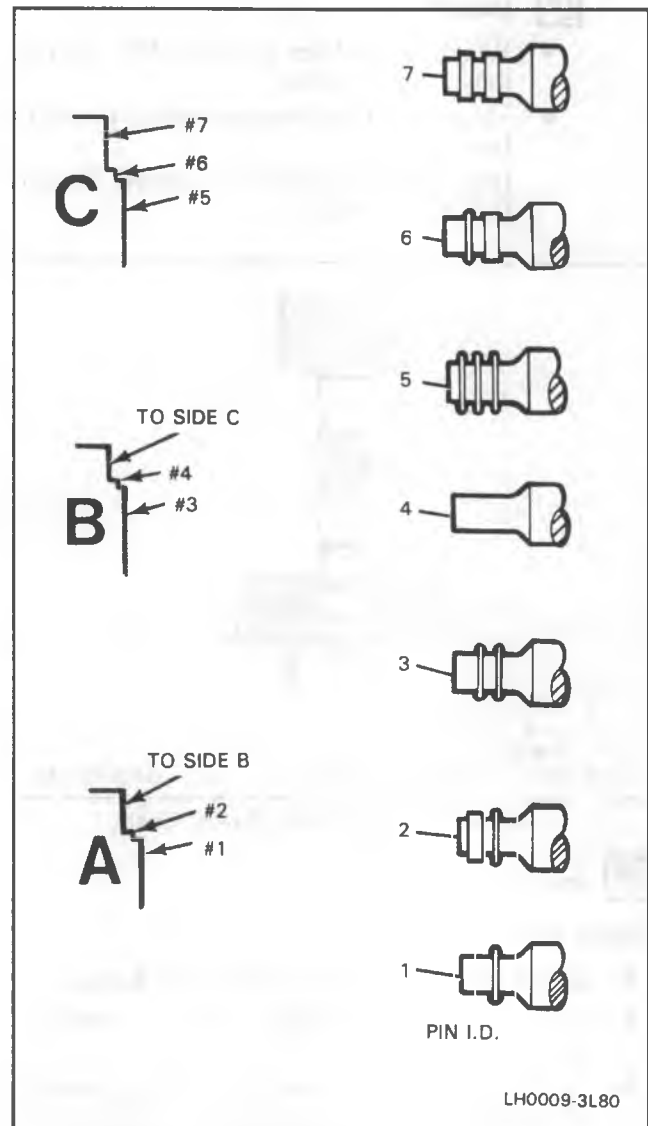

Figure 84 — Band Apply Pin Selection Chart
6. For pin selection, see Figure 84.